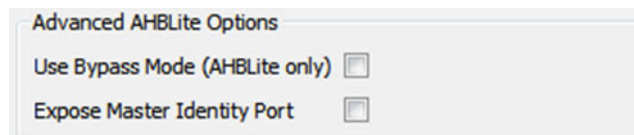

Figure 5-2 • Advanced AHBLite Options
3. If you are using an AHBLite Interface you can also use the Advanced AHBLite Options to select the bypass mode, or expose the master ID port if you selected the interface to act as a master of the fabric (Figure 5-2).